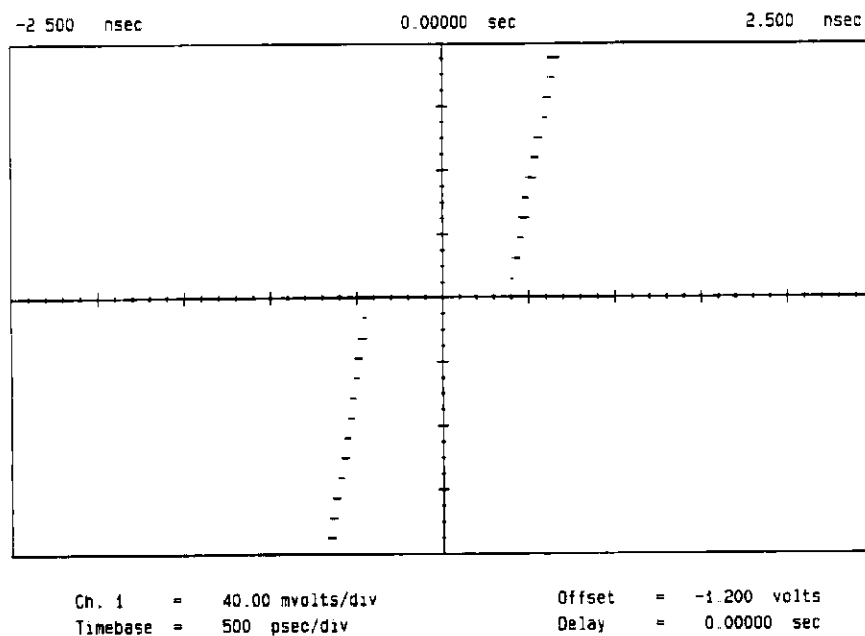

*Figure 4-6. Area of discontinuity is centered and expanded.*
8. Using channel 1 VERTICAL MAGNIFY MODE menu, center window and expand to 40 mV/division. (Window size = 320 mV ) Refer to figure 4-6